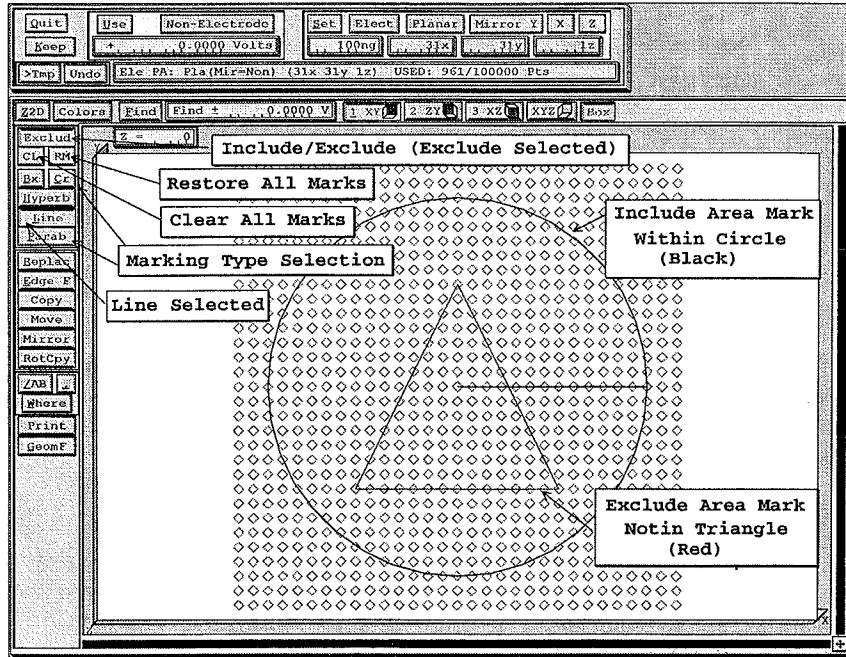

Figure 5-8 Example of using include (a circle) and exclude (a triangle) area marking
**Modify** allows you to mark areas with: Rectangles, circles (or ellipses), connected line segments, parabolas, or hyperbolas. You have the option of using a different type of mark for each area marked. This provides considerable flexibility in defining the shape of marked volumes (Figure 5-8).
The Modify Screen has a button in the marking control area to control whether a mark is considered to be include (*within*) or exclude (*notin*). *Click the button to the desired marking type before starting the marking process* (Figure 5-8).
In the example above, we could have also marked a triangular *exclude* mark within the circle mark in the *XY* view to create a circular disk with a triangular hole in it (Figure 5-8 above).
To clear *all* marks click the **CL** button (*just below the Include/Exclude button*). A copy of the current marks (*if any*) will be saved in mark memory (Figure 5-8).